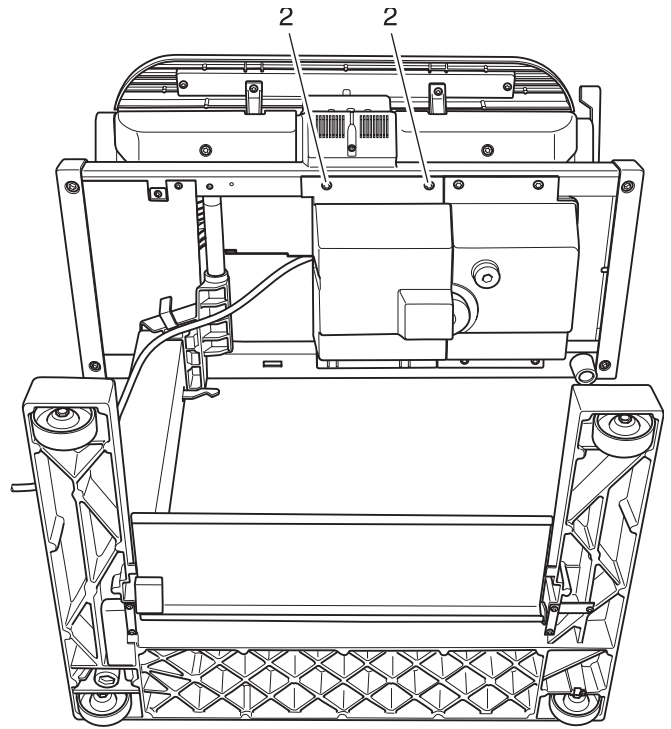

Fig. 13g
- Lay the high-speed iron face-up on the floor (fig. 13g).